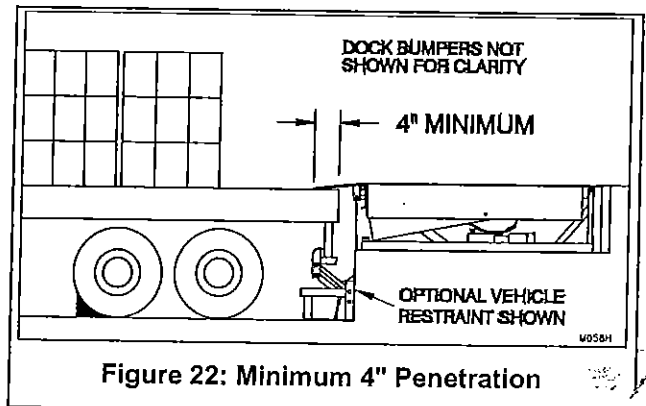

Figure 22: Minimum 4" Penetration
NOTE: Always be certain that the truck/trailer is parked tight against the face of both dock bumpers and the truck wheels are chocked and/or that the truck is locked in place by a vehicle restraint (See Figure 22, page 18) before loading or unloading. All 'air ride' trailers must release the air from the suspension mechanism prior to activating the dock leveler for use.
3. Release the **RAISE** button to allow the deck to lower until firm contact is made with the truck bed. **Note:** The lip must extend a minimum of 4" onto the truck bed. (See Figure 22, page 18)